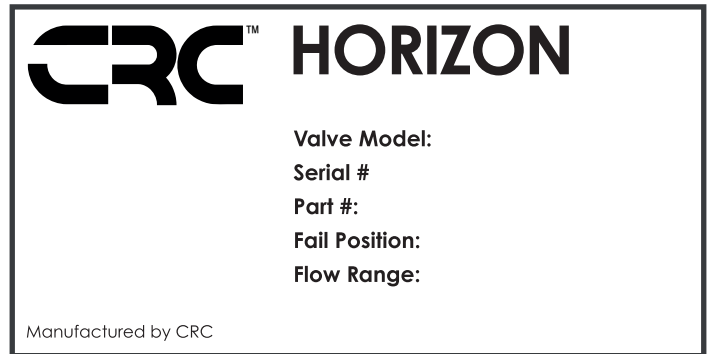

Figure 1
- Check the valve label to verify its correct location and function (refer to Figure 1).